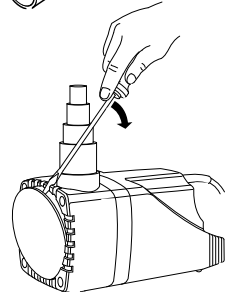

Fig 3
- Occasionally it may be necessary to clean the water intake chamber. Prise off the bottom plate (fig 3). Thoroughly flush the inner cavity and impeller with clean water and replace the base moulding by pressing the pegs into the four retention bosses.